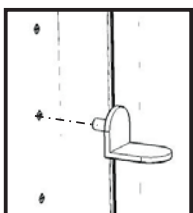

Figure 4
Insert Adjustable Pins into side panels and middle panels at the desired level (see Figure 4), then place Shelves (K) and (L) into position.